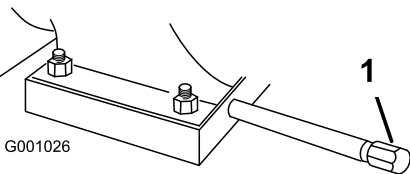

Figure 41
- 1. Clean the area around the oil drain cap (Figure 41).